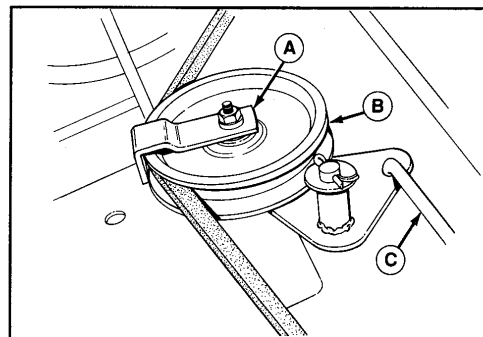

Figure 31.
5. Loosen the belt guide (A, figure 31) from the idler pulley (B).